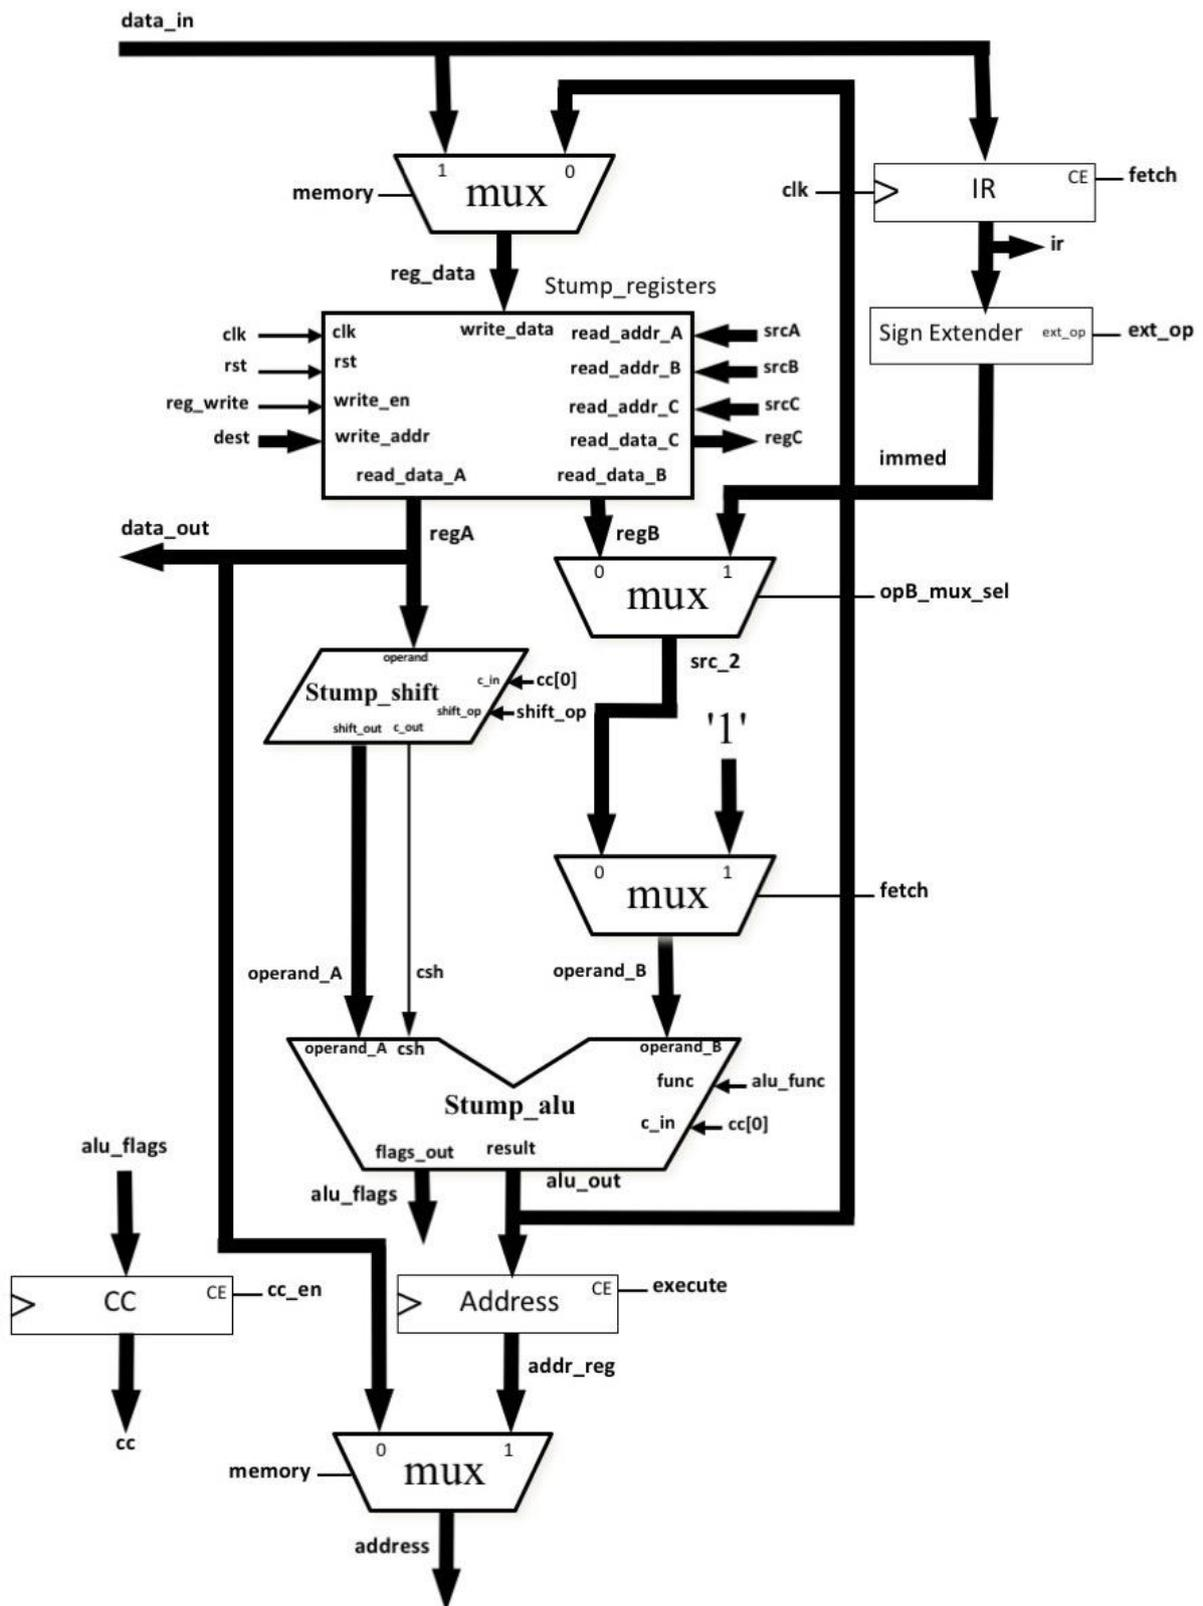

Figure Q2.1
b) You are asked to add an instruction similar to BL to the Stump ISA. Using the datapath microarchitecture given in Figure Q2.1, describe a sequence of internal operations which could perform this. You can assume that R6 can be used as the link register (LR). (5 marks)